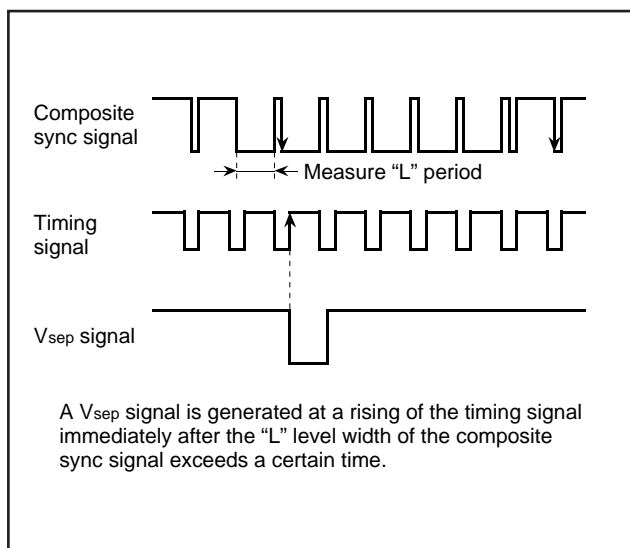

Fig. 33. Vsep Generating Timing (method 2)
- Method 2 The "L" level width of the composite sync signal is measured. If this width exceeds a certain time, it is detected whether a falling of the composite sync signal exists or not in the "L" level period of the timing signal immediately after this "L" level. If a falling exists, a V_{sep} signal is generated in synchronization with the rising of the timing signal (refer to Figure 33).
Figure 33 shows a V_{sep} generating timing. The timing signal shown in the figure is generated from the reference clock which the timing generating circuit outputs.